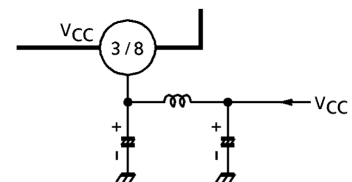

Fig.2 LC Filter
2. In case that spurious radiation due to the oscillation is large, it is recommended to provide LC filter on the power supply line as shown in Fig.2. As for this value, select the optimum one depending on the kind of set.